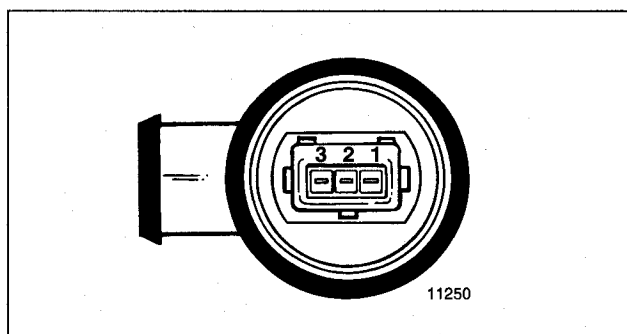

Fig. 30. Idle speed control valve terminal identification.
3. If valve is not buzzing, or if idle decreases in step 2, stop engine and disconnect harness connector from valve. Check resistance of valve across its terminals. See Fig. 30. Test values are listed below.